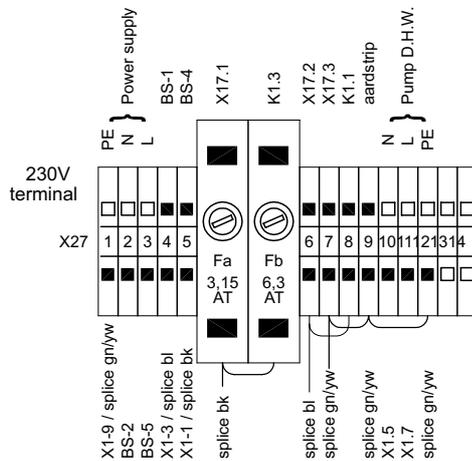

Fig. 16 Terminal strip
- On the 230 Volt-terminal strip (X27, see Fig. 16):